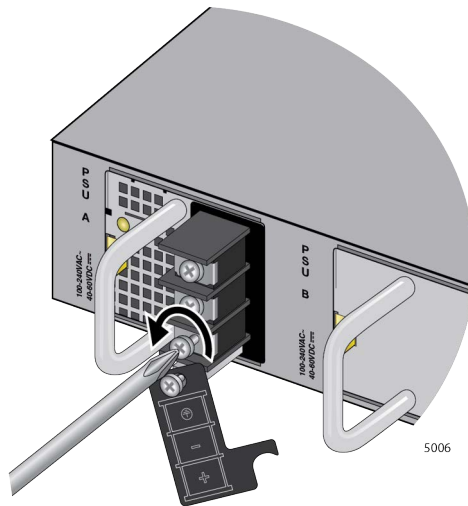

Figure 97. Loosening the Ground Screw
4. Loosen the ground screw with a Phillips-head screwdriver. Refer to Figure 97.